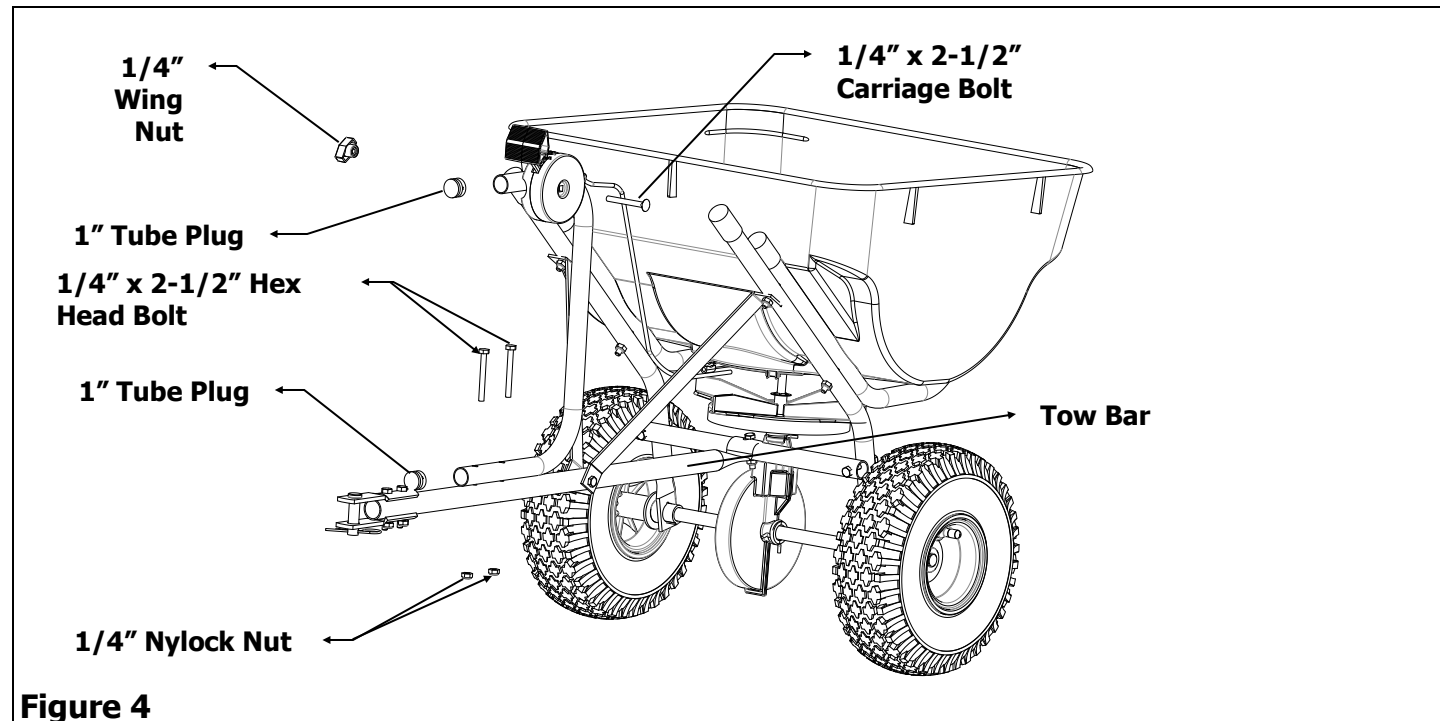

Figure 4
4. Fasten the Control Cable Holder to the top of the Tow Bar, using two 1/4" x 2-1/2" Hex Head Bolts and two 1/4" Nylock Nuts. Attach the Control Cable to the top of the Control Cable Holder using a 1/4" x 2-1/4" Carriage Bolt and secure with a 1/4" Wing Nut. Using a hammer, gently tap the two 1" Tube Plugs into the open ends of the Control Cable Holder Tube. See Figure 4.